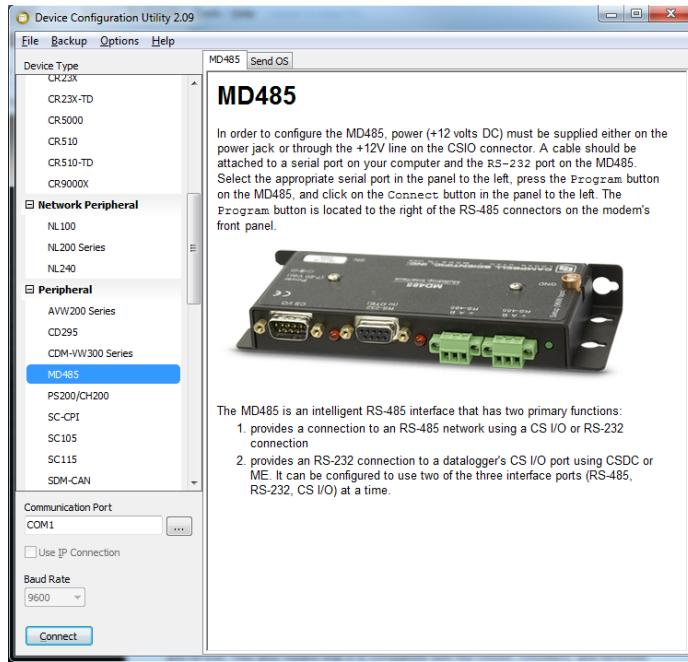

FIGURE 8-7. MD485 Device Configuration screen
3. Open *DevConfig*. Click **Peripheral**. Select **MD485**. Select the **Communication Port**. Push the **Program** button on the MD485. Click **Connect**. The program button is located to the right of the RS-485 connectors on the modem’s front panel (FIGURE 8-7).